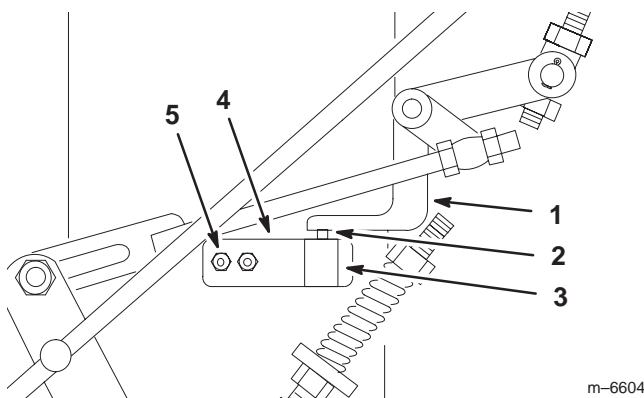

Figure 49
8. Check to make sure the safety switch is depressed and there is an 1/8 to 1/4 inch (3 to 6 mm) space between the actuating tab and the safety switch (Fig. 49).
9. To adjust the switch location, loosen the two neutral bracket screws holding the switch plate to the frame (Fig. 49).
10. Adjust the switch up or down to obtain an 1/8 to 1/4 inch (3 to 6 mm) space (Fig. 49).
11. Tighten the two neutral bracket screws holding the switch plate (Fig. 49).